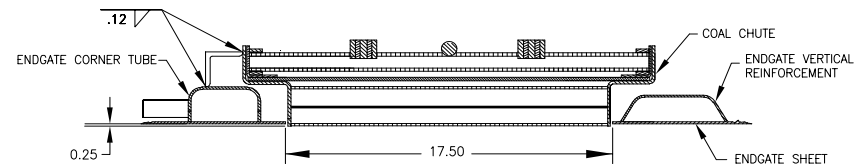
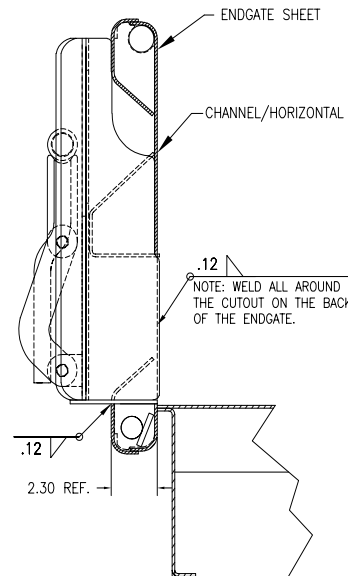
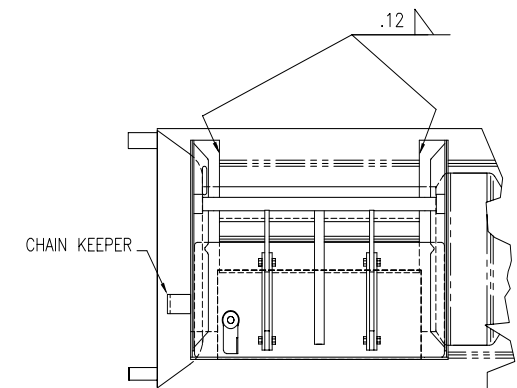

Figure 4
Figure 5
Figure 6
- Make sure that the coal chute is perpendicular to the tailgate sheet. (See Fig.4 and Fig.5)
- Position the unit to fit exactly in the cutout and push flush to the tailgate sheet to form a frame of 0.25" (including the tailgate thickness) around the cutout, on the back of the tailgate. (See Fig. 4 and Fig. 5)
- Weld the unit around the cutout on the back of the tailgate. (See Fig. 5)
- If needed, reattach the chain keeper and weld it to the coal chute and to the corner tube. (See Fig. 4 and Fig. 6)
- If the tailgate is painted, remove paint in the areas designated for welding. (See Fig. 5 and Fig.6)